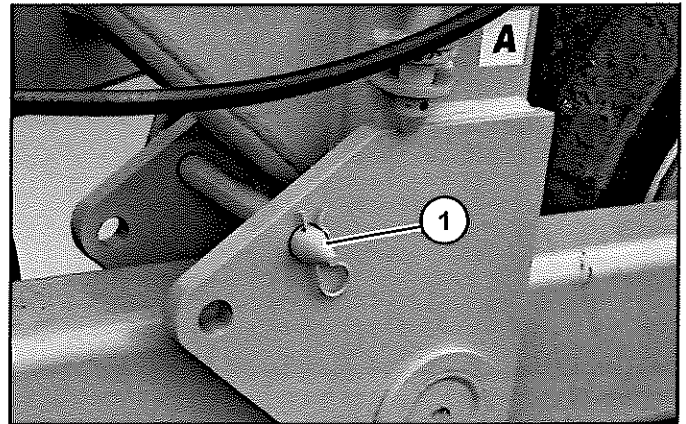

Figure 15
1. Move the pin (Item 1) (**Figure 15**) on the tandem walking beam to the set up position. The top hole is for transport and operating position and the bottom hole is used only during set up. It will keep the walking beam from tipping up and down. When set up is complete return the pin to the operating position (top hole).